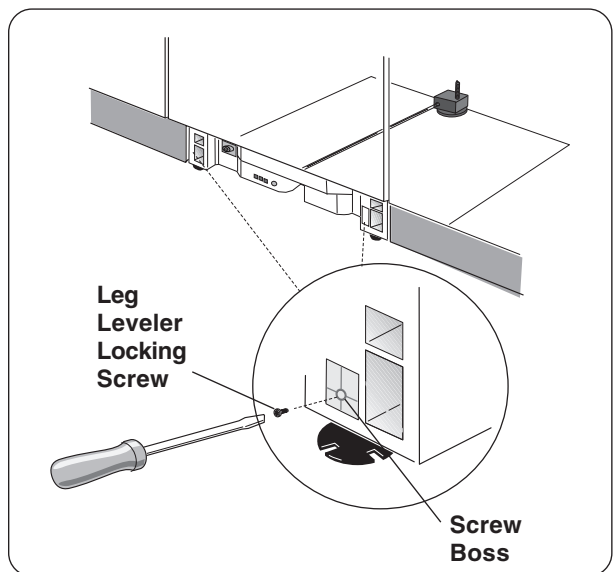

Figure 21
- 2 After the unit is installed in the enclosure, leveled and secured, lock the two front leg levelers in place by driving the enclosed leg leveler locking screws into each screw boss located in front of the levelers. See **Figure 21**.